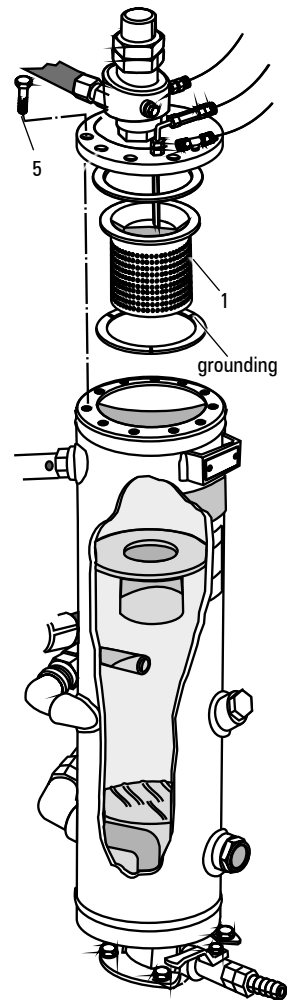

FIGURE 17.5
- For compressors SRP 4100 and SRP 4200 there is support in the reservoir to facilitate removal of its cover, as in figure 17.5